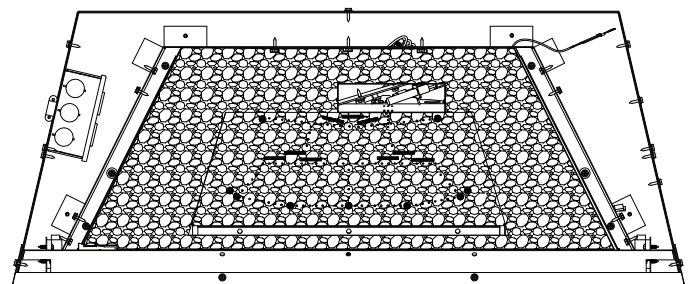

**Figure 59**
13. Place log #13 onto log #12 and top front right log (#10) by placing notch on bottom of log onto locating block on log #12. Rest bottom of log onto log #10 and center log (#9). Figure 59